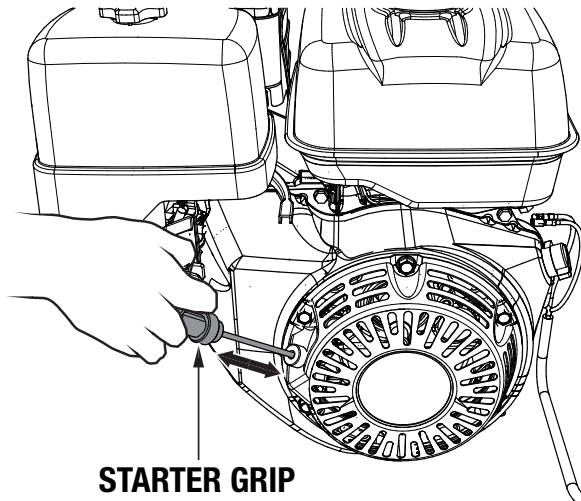

Figure 62. Recoil Starter Grip
- Slowly pull the recoil starter grip (Figure 62) until resistance is felt, then pull briskly and smoothly to start the engine. Once the engine starts, **DO NOT** release the starter grip immediately. Allow the starter grip to recoil gently to its original position.